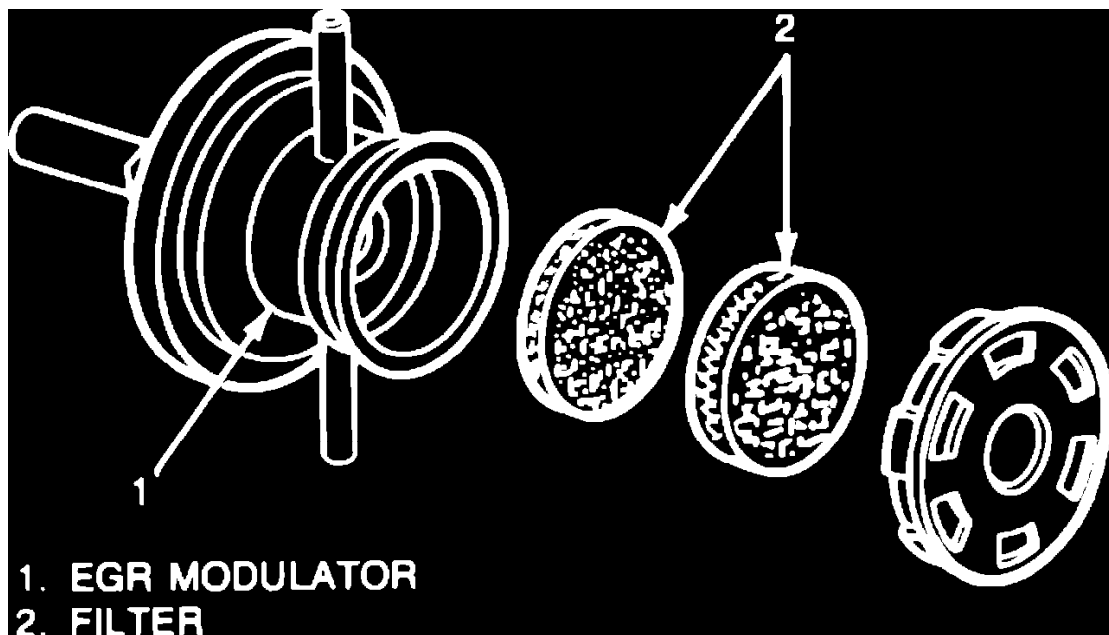

Fig. 16 EGR modulator. Exploded view
1. Inspect filter for dirt or damage, **Fig. 16**. Clean filter using compressed air.